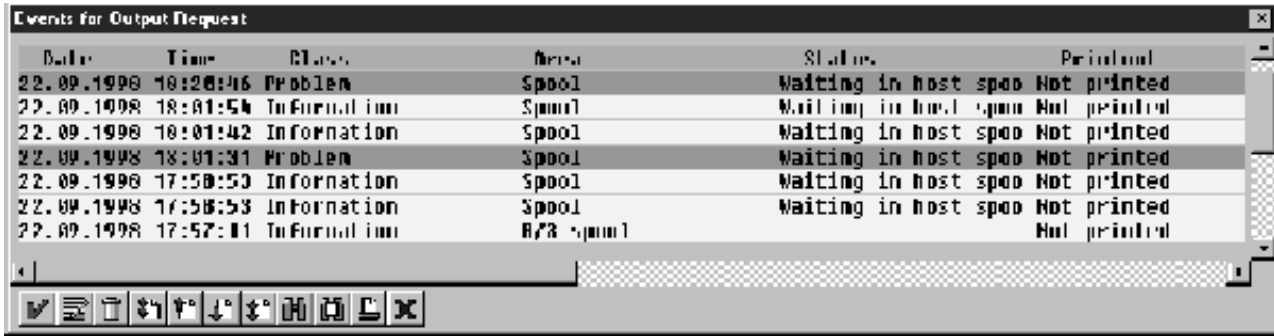
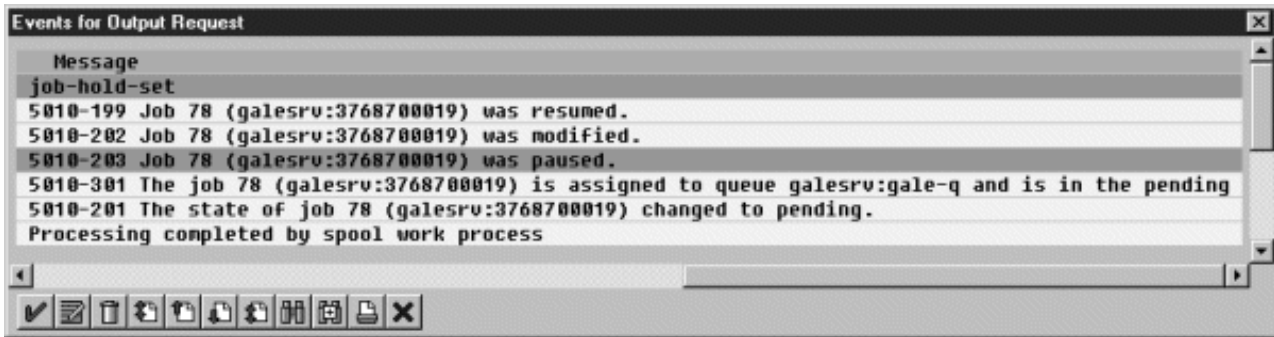

Figure 17. Events for Output Requests window, View 1
Figure 18. Events for Output Requests window, View 2
3. Click on the **Events** button on the Status Description window to get the Events for Output Requests window. From the Events for Output Requests pop-up window (see Figure 17 on page 48 and Figure 18 on page 48), you can view all the events concerning this job.
This Events for Output Requests pop-up window is displayed twice to show (1) the right side of the window with the date, time, and current status of the job (Figure 17 on page 48), and (2) the left-side of the window with its message text (Figure 18 on page 48).